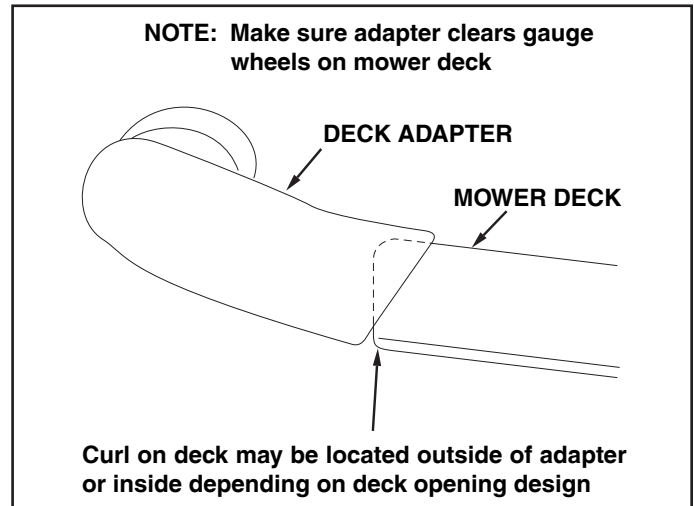

FIGURE 16
- Position the adapter over the deck opening, and check for fit of cutout as shown in figure 16. Trim cutout, if necessary, to allow tilting of adapter, keeping the fit as close as possible for best vacuum suction.